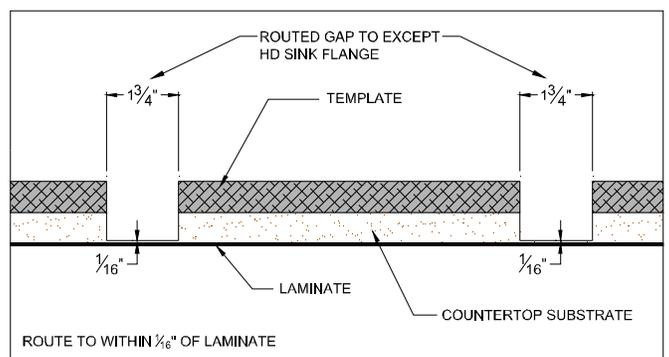

Figure 9C
- Index a 3¼ HP or 2½ HP plunge router with a 1⅞" x 1" top bearing flush trim router bit to remove the substrate. (FIG. 9C)